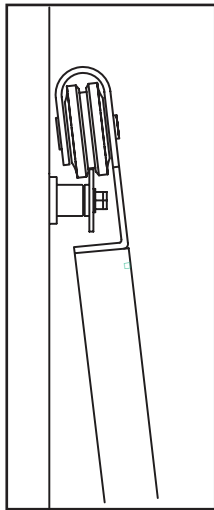

Figure 1
1. Hang the door on the track (Figure 1).